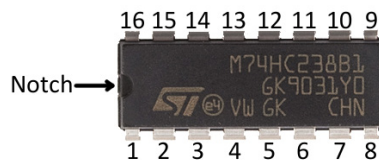

Figure 3: L293D IC - dual H-bridge motor controller, with pin numbering (take note of the "notch").
In this activity, you will use the integrated circuit (IC) L293D (see Figure 3) chip, which is a dual H-Bridge motor controller. It includes **two H-bridges** and can control two motors. Although we will be using the Arduino Uno to generate the PWM signals needed for controlling the motor's speed, it is important to realize that the Arduino Uno only has an output current limit of around **20 mA**. This current is insufficient for driving a robotic vehicle's wheel motors directly. Hence, another important function of the motor controller chip is to provide the high current required by the motor using an external power supply, so that the current does not have to come directly from the microcontroller such as the Arduino Uno in our case.